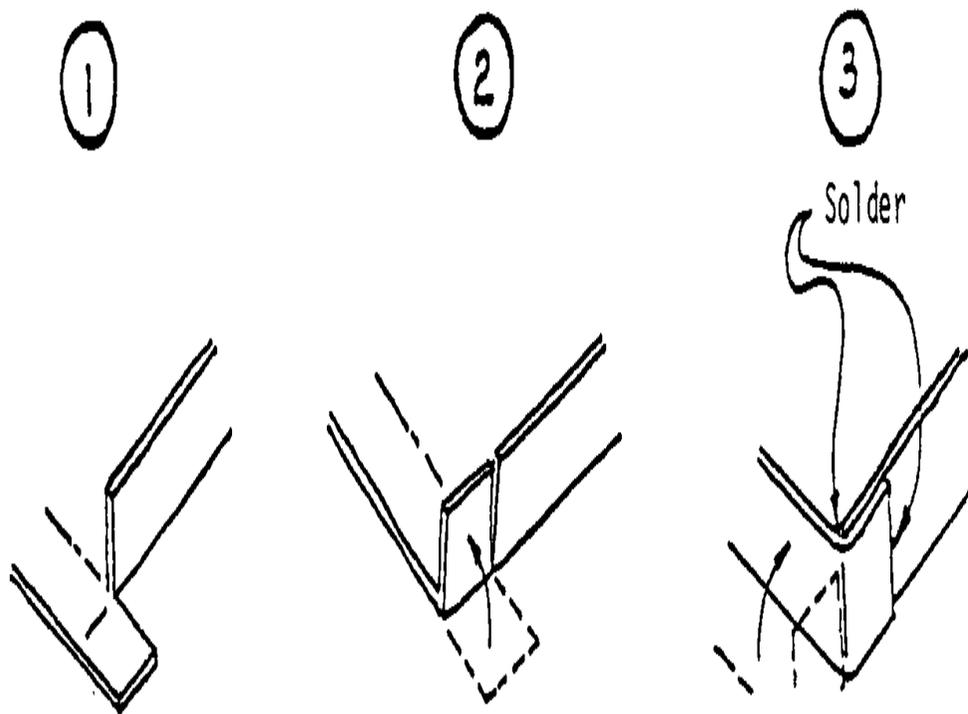

Figure 4. Form Corners
4. Bend the ends into corners. Solder all four corners at the top and bottom, inside and out, as indicated in Figure 4.